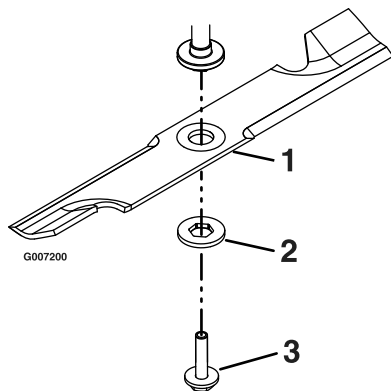

Figure 46
2. With the wrench still on the blade bolt, hold the blade spindle stationary and using a rag or thickly padded glove, try to rotate the blade. If the blade rotates relative to the spindle guard without further tightening the blade bolt, the spring disc washer has been flattened or damaged and the bolt and washer assembly must be replaced (Figure 46). Refer to the Removing the Blades and Installing the Blades section.
Hold the blade end using a rag or thickly-padded glove (or place a wrench on the top sheave nut). Remove the blade bolt and washer assembly, washer, and blade from the spindle shaft (Figure 46).
1. Install the blade onto the spindle shaft (Figure 46).